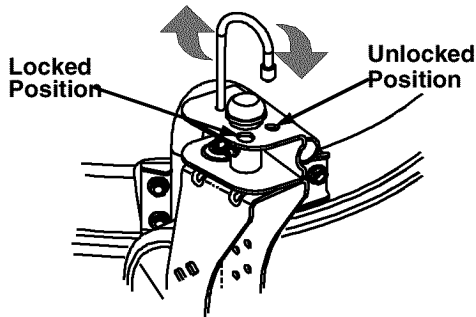

Figure 10
- **To lock caster:** Lift and place the lock pin in the larger hole on each caster. See Figure 10.